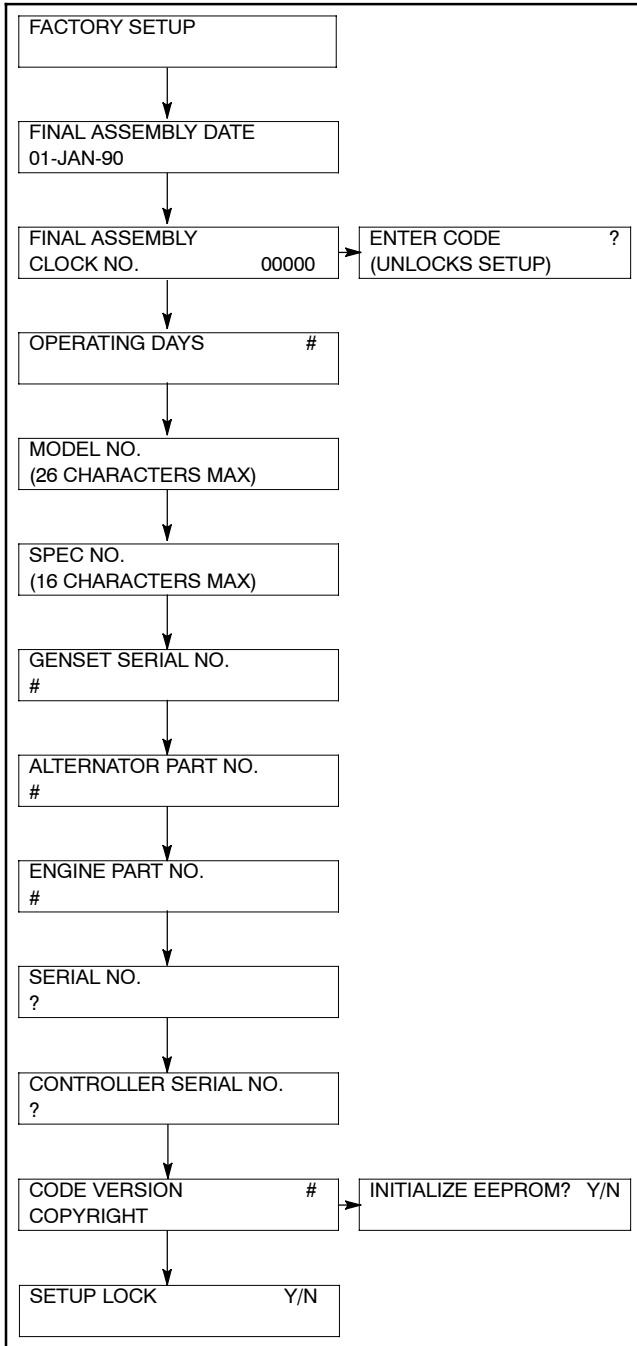

Figure 6-4 Menu 20, Factory Setup
- d. Use the controller keypad to go to menu 20, Factory Setup. See Figure 6-4 for displays.
- (1) Arrow down to the CODE VERSION display.
- (2) Arrow right to the INITIALIZE EEPROM display.
- (3) Press the YES key to initialize the EEPROM.
- (4) Press the ENTER key.
- i. Go to menu 20, Factory Setup. See Figure 6-4 for displays.